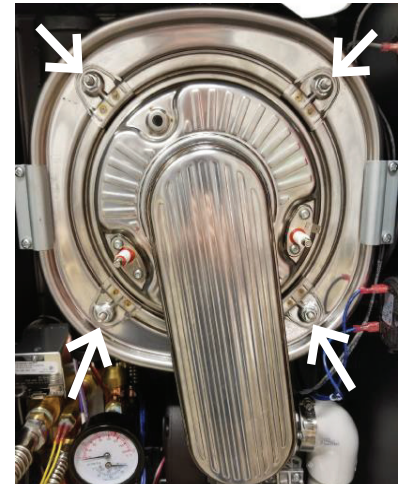

Figure 6
- Remove the (4) 10mm nuts that attach the cold burner door to the heat exchanger (Figure 6).